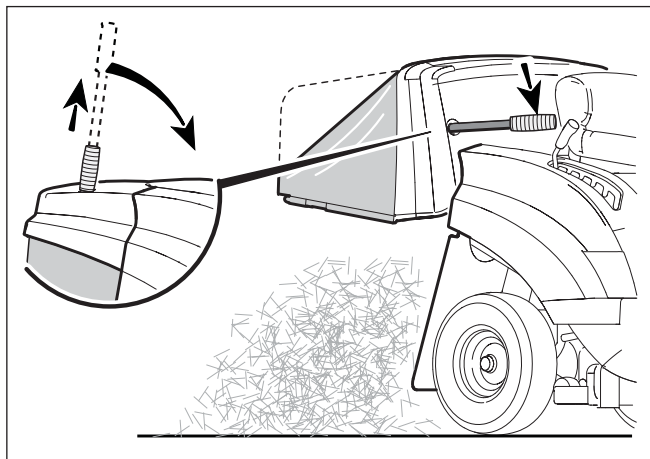

Figure 17
1. Extend the grass bagger handle and rotate forward until the grass bagger assembly is completely open at the bottom (see Figure 17).